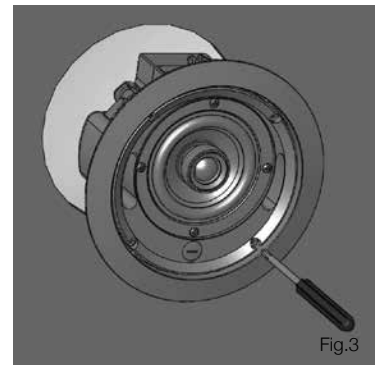

Fig.3
3. Place the C-Ring and tile-bridge on top of the ceiling panel, aligning the C-Ring over the hole, and screw the C-Ring to the tile bridge using the fixings provided. (Fig.3)
4. Slide the speaker assembly through the hole and turn the screws to extend the mounting wings. Tighten the screws until a firm grip is achieved. If using a power driver, Tannoy recommends a torque setting of 1.5 Nm. (Fig.3)
5. Slide the speaker assembly through the hole and turn the screws to extend the mounting wings. Tighten the screws until a firm grip is achieved. If using a power driver, Tannoy recommends a torque setting of 1.5 Nm. (Fig.3)
4. The CVS 4 Micro (EN54) is fitted with a 15 W transformer. When used in distributed-line systems, the transformer can be tapped at 15 W, 7.5 W and 3.75 W, with an additional 1.9 W tapping for 70.7 V line systems. (Fig.3)